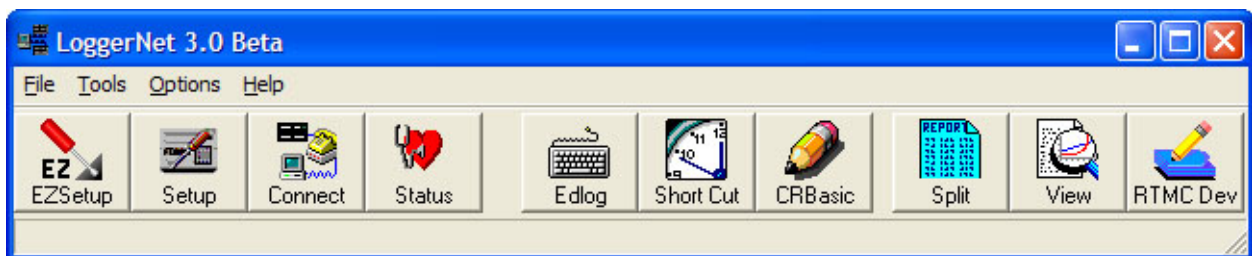

Figure 3. LoggerNet Software Interface
4. Click on the "Connect" icon in LoggerNET to launch the program as illustrated in Figure 3.